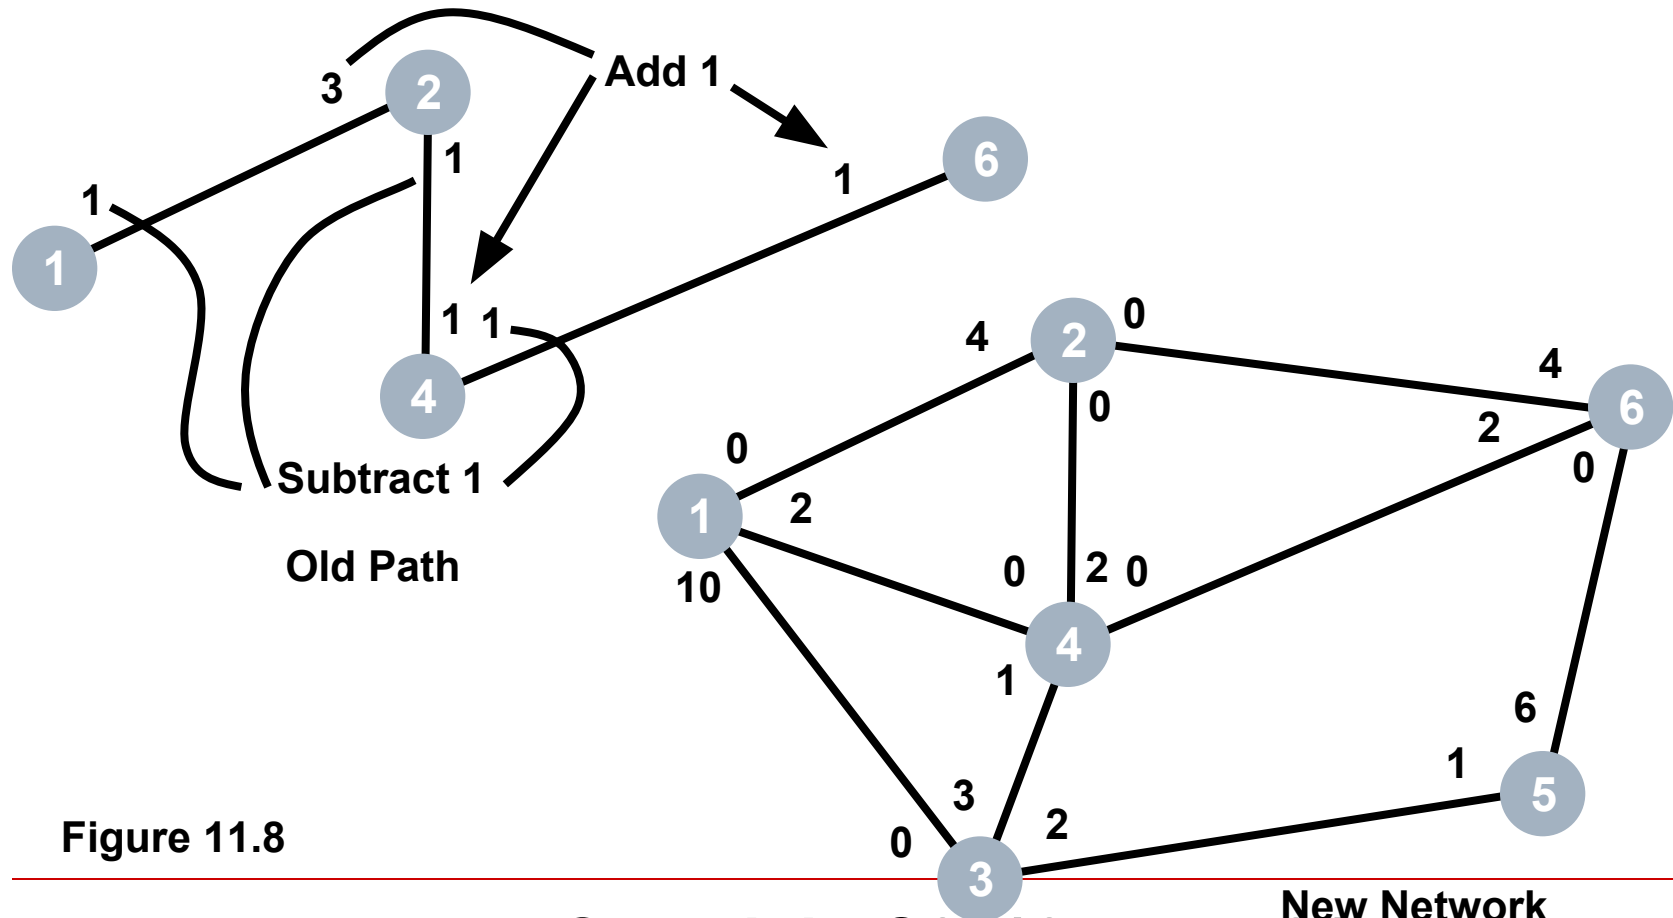

Figure 11.8
- The result is the new path in Figure 11.8.